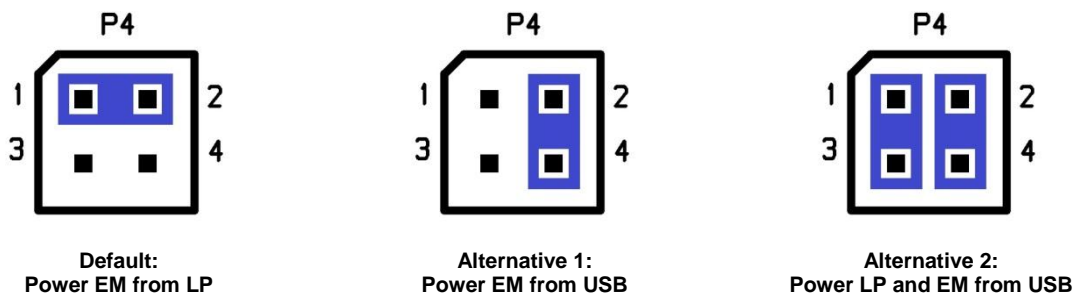

Figure 5 - Power Select Jumper
The default option is to power the adapter board, and thus the evaluation module (EM), directly from the LaunchPad (LP). In this case, the jumper should short-circuit pin 1 and 2. See Figure 5 below (the default option on the left).
To power the assembly from USB, the jumper on header P4 must be rotated 90 degrees so that pin 2 is connected to pin 4. See Figure 5, alternative 1. The on-board buck/boost regulator will set the voltage to 3.3V.
By connecting an additional jumper on P4, short-circuiting pin 1-3, you can use the USB supply to both power the EM and the LaunchPad, as shown in Figure 5, alternative 2. In this case, remove any other power source from the LaunchPad.